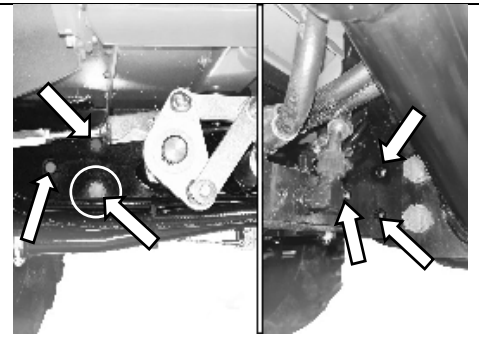
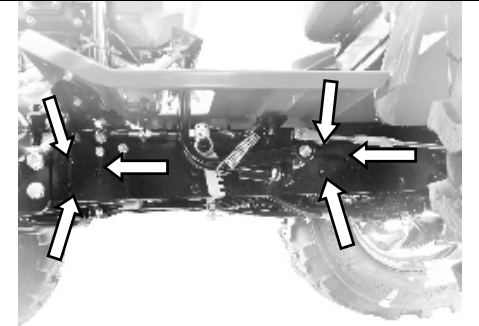
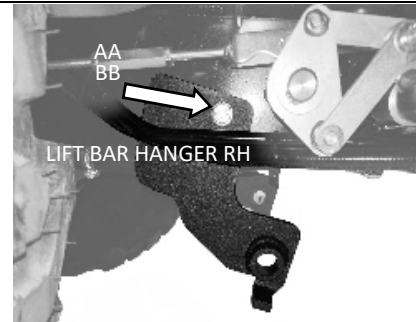

Figure 1A
Figure 2A
Figure 4A
1. Locate the hole positions on the tractor frame where the brackets will be mounted. Figure 1A depicts the right side of the tractor. Retain the factory bolt circled, to be used in the next step. Figure 2A depicts the left side of the tractor.
3. Remove the bolt and nut indicated in Figure 1A along with washer AA to install the Lift Bar Hanger RH (item 16) as indicated, figure 4A.